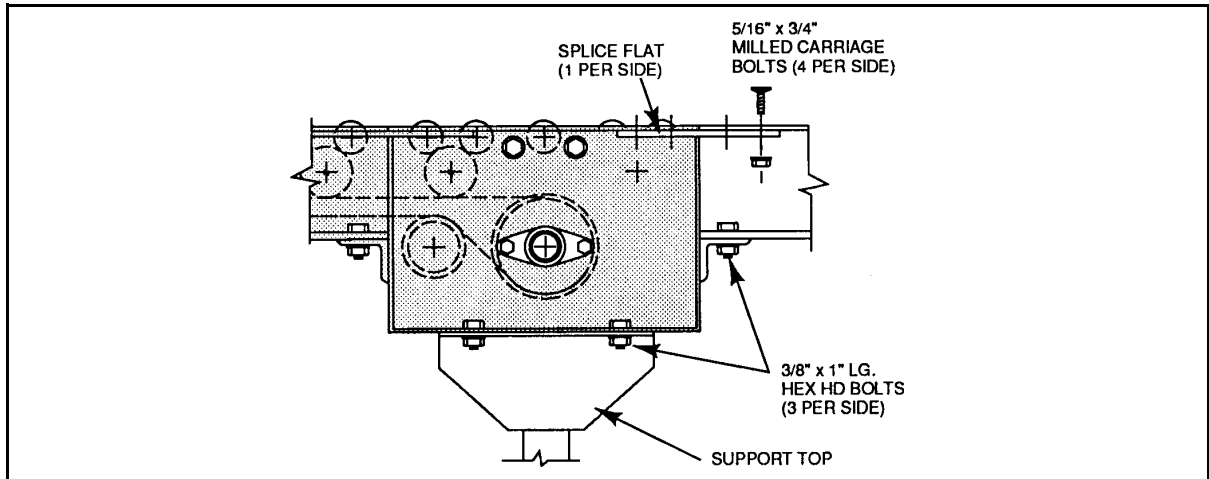
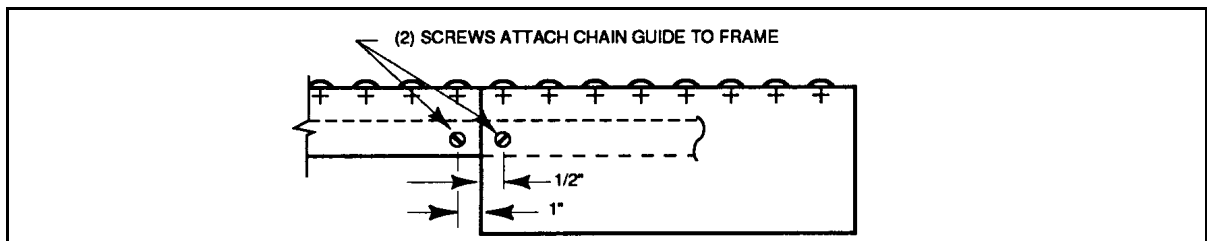

Figure G.23 – Power Transfer Unit Connection
Figure G.42 – Secure Chain Guide
- Step 1. Assemble the drive/curve sub-assembly to the take-up/curve sub-assembly, Figure G.23, and make the chain connections, see Figure G.42, Figure G.43, and Figure G.44.
Step 1. Check that two screws secure the chain guide at the connection of the drive or take-up side plate and the frame rail (see Figure G.42).
Step 2. Drill (1) 1/8" diameter hole through the chain guide and side rail (see Figure G.42). Attach the chain guide to the rail, and drill or punch (8) 13/32" diameter holes in flanges. See Figure G.44 for attaching chain guide to the rail.